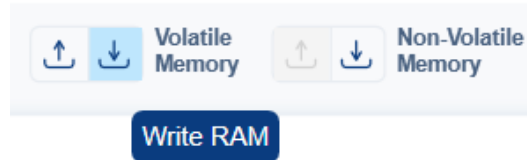

Figure 5: Write the MPQ4242B’s Register Values via the I²C
- Click “ Write RAM” on the toolbar to write the I²C command to the MPQ4242B (see Figure 5).